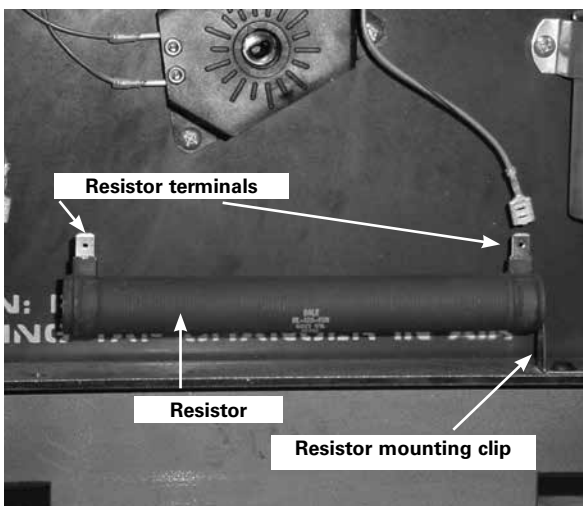

Figure 5. Installing the new resistor
5. Push the new resistor onto the mounting clip that is fastened to the lower tap changer mounting bracket. The resistor terminals must be pointing upward. See Figure 5.